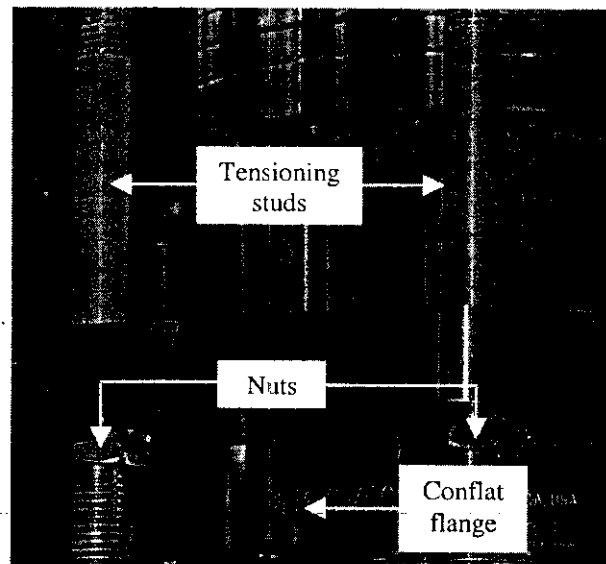

Figure 1.22 The positions of the tensioning studs, nuts, and top plate Conflat flange as the 20 Conflat bolts are tightened.
- 1.22 Raise the nuts on the tensioning studs to hold the lead in place, as shown in Figure 1.22.